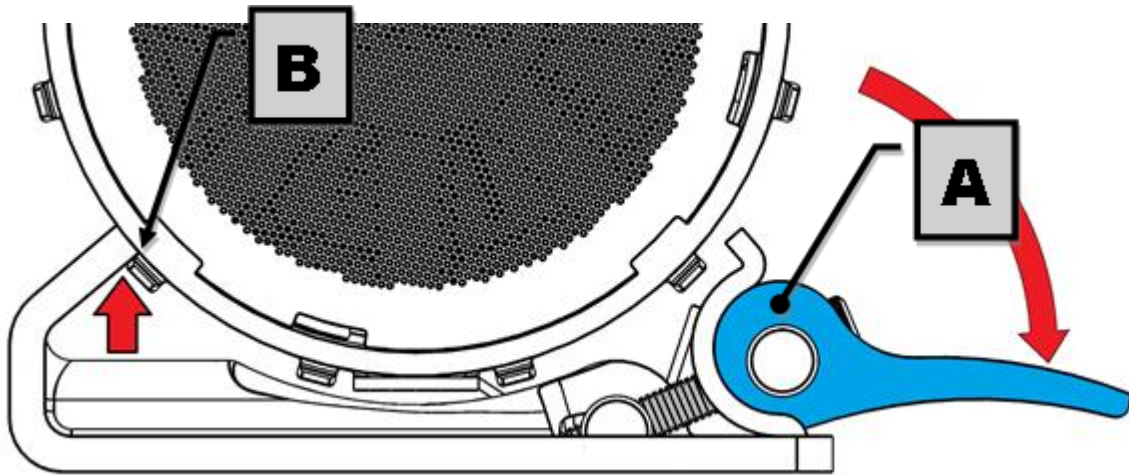

Figure 2. Compressor sitting in unlocked cam-clamp
- ☐ Open the cam-clamp (A), then place the compressor into the clamp in the desired rotational position with the rigid edge of the mount bracket against one of the ribs of the compressor (B) as shown in Figure 2.